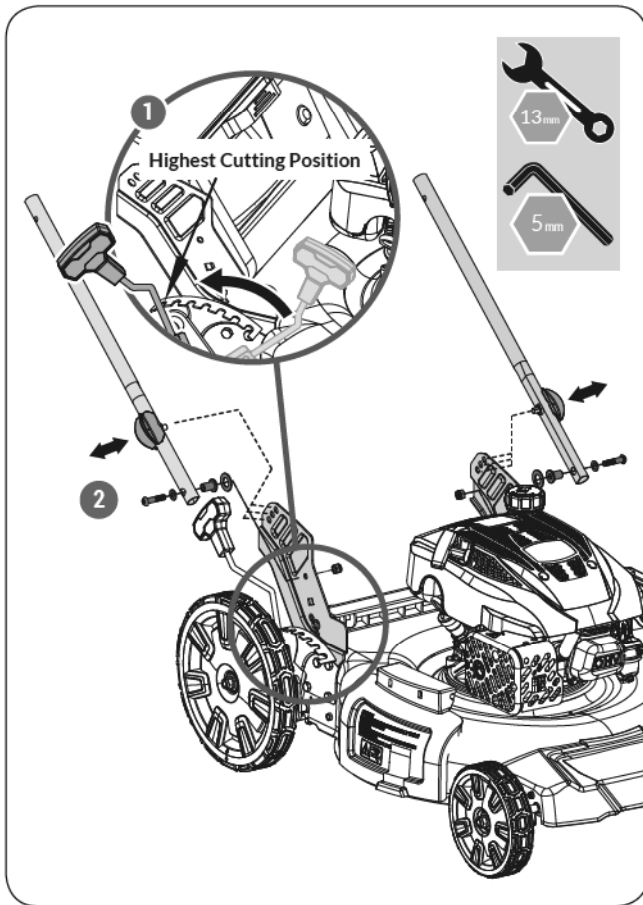

Figure 2
1. Move the cutting height adjustment lever to the highest position. (See **Figure 2, illustration 1**)
2. Attach the short studs in the lower connecting handlebar into any one of the three holes in the handle bracket. Align the lower hole in the lower connecting handlebar with the hole in the bottom of the handle bracket. Insert the bolts, washers, bushes and secure with nuts. (See **Figure 2, illustration 2**)